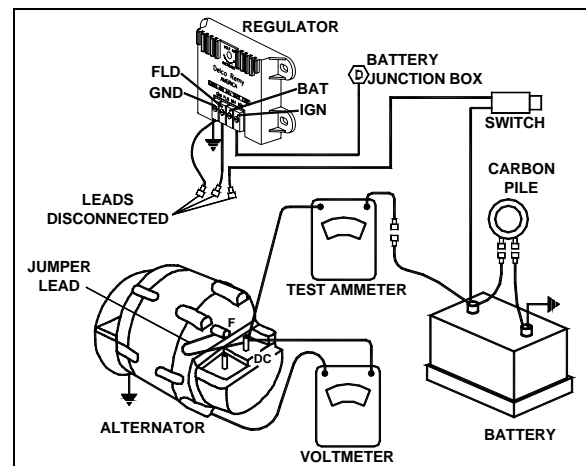

FIGURE 33: REGULATOR VOLTAGE TEST (UNDERCHARGED BATTERY) 06417
6. See Figure 33 for wiring connections.
- B) By removing any retaining screws involved and unsoldering the connections. When resoldering, limit solder time to a minimum as excessive heat may damage the printed circuit board and component parts. However good soldered connections are essential for satisfactory operation. A resin core 63% tin 37% lead solder with a 360°F (182°C) melting point is recommended along with a soldering iron rated at 50 watts or less. Use extreme care to avoid overheating. Before checking the printed circuit board, remove transistor TR1, which must be checked separately. Connect the ohmmeter as shown in Figure 33, and then reverse the ohmmeter leads to obtain two readings on the same component. Use the middle scale on scale-type meters on which the 300 ohm value should be within, or nearly within, the middle third of scale.